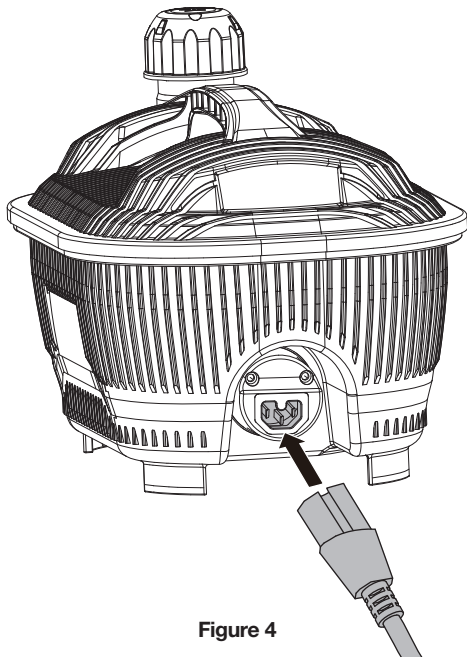

Figure 4
4. CONNECTING THE MAINS CABLE (SEE FIG. 4)